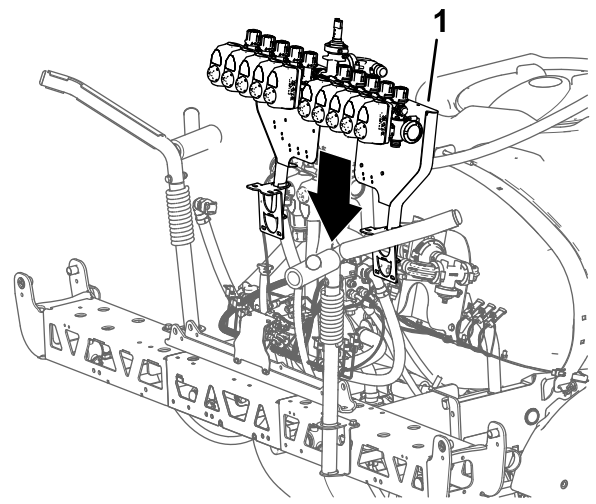

Figure 109
1. Using lifting equipment with the specified capacity, lift the valve mount and sprayer valve assembly and align it over the center-spray section (Figure 109).